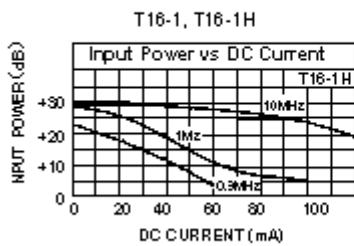

Fig. 7
Transformer core saturation is influenced by (1) DC current through the winding, (2) RF input power, and (3) frequency of operation. These three variables interact to affect the point at which saturation occurs. See Figures 7 and 8 in which conventional transformer saturation is compared to the TH series.